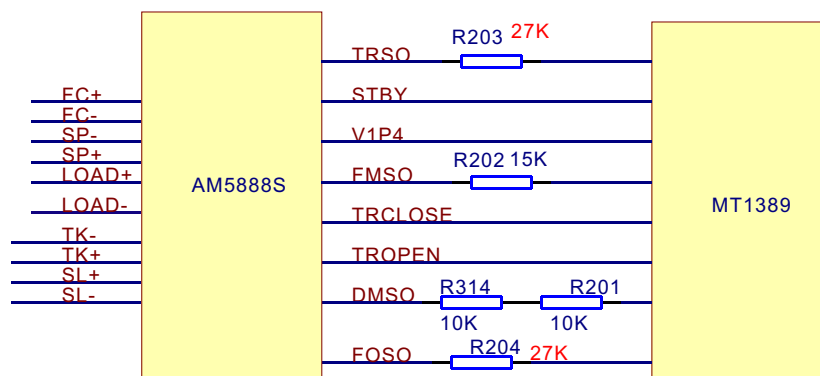

Figure 3.2.5.1 Open/close door drive circuit diagram
1. Open/close door drive circuit is shown in the following figure 3.2.5.1: